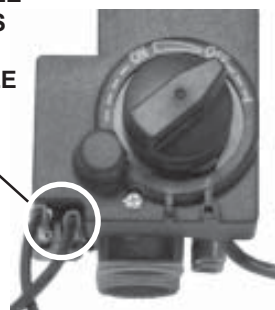

Figure 1
Step 1. Attach the supplied wires with female connectors to the proper mating terminals on the valve (See Figure 1).